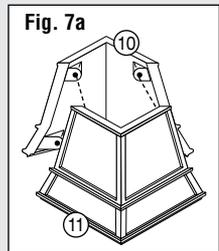

Fig. 7a
- Press Upper Tower pieces ⑩ and ⑪ together (Fig. 7a), then apply glue along inside seams.